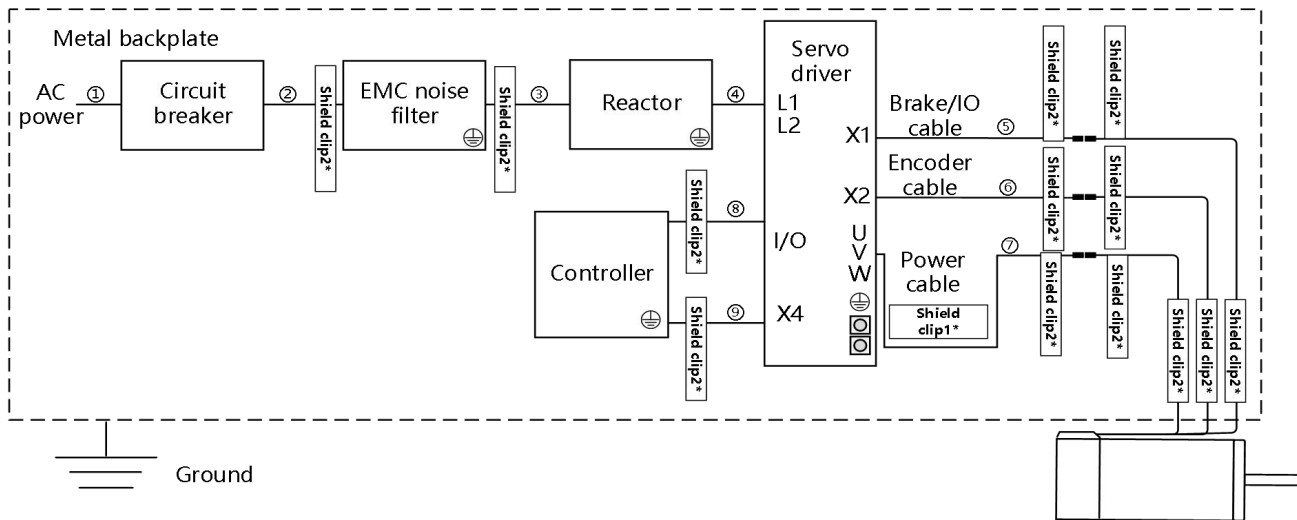

Figure3-6 FD425drive EMC setting conditions schematic diagram
(1) Reactor
- To suppress the higher harmonic currents at the input power side, connect a reactor to the power input end of the driver. Figure 3-6 shows how to install a reactor.
(2) EMC noise filter